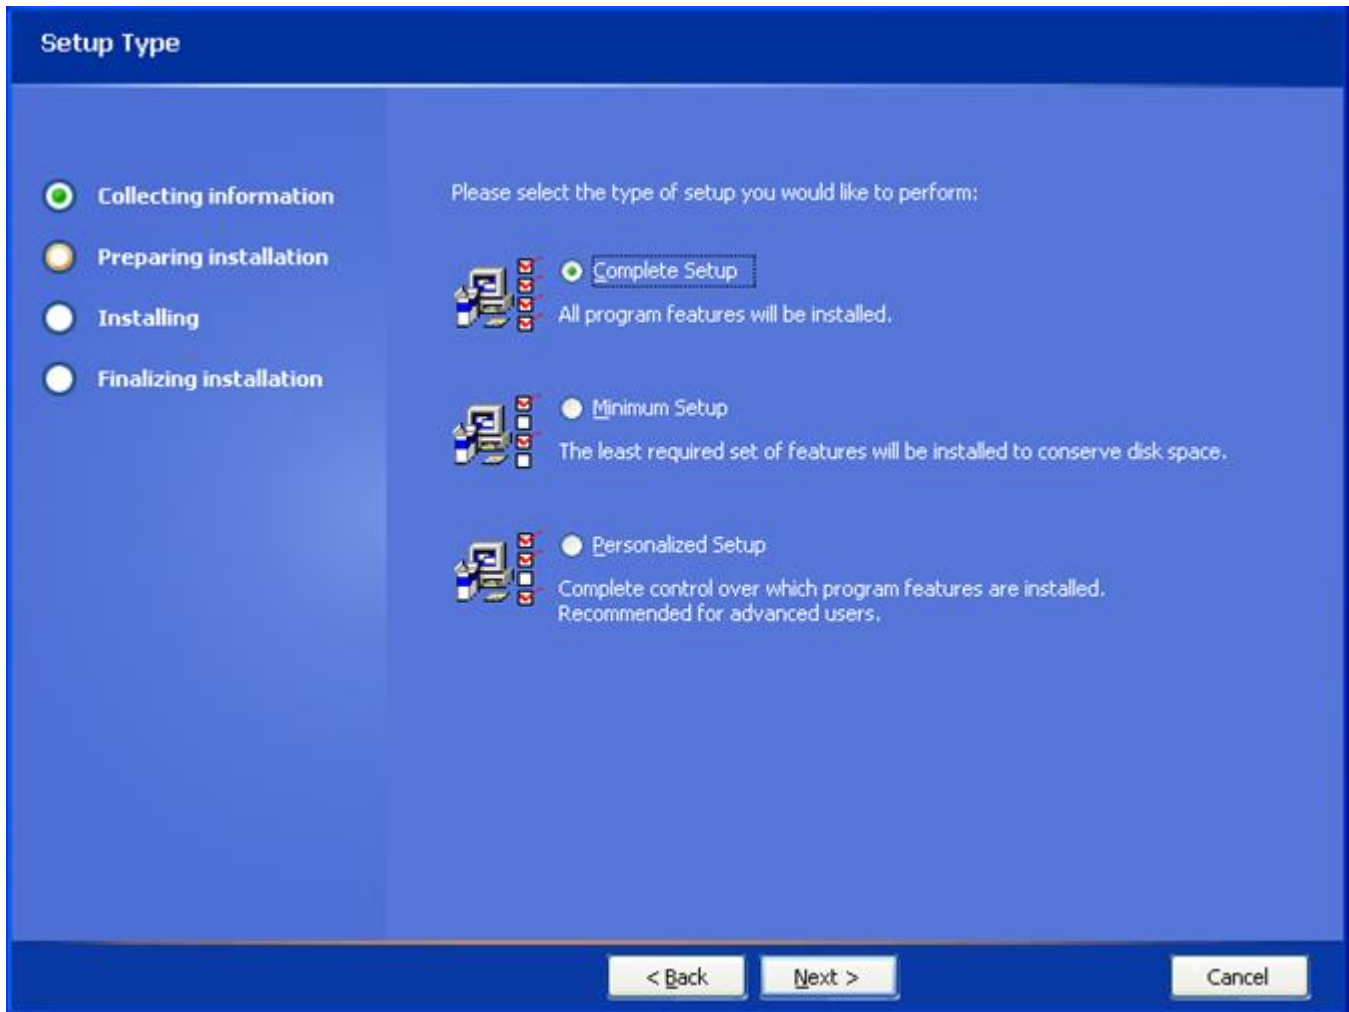

Figure 86 - Setup Type Screen
8. Click on the **Next** button. The **Setup Type** screen (Figure 86) appears.